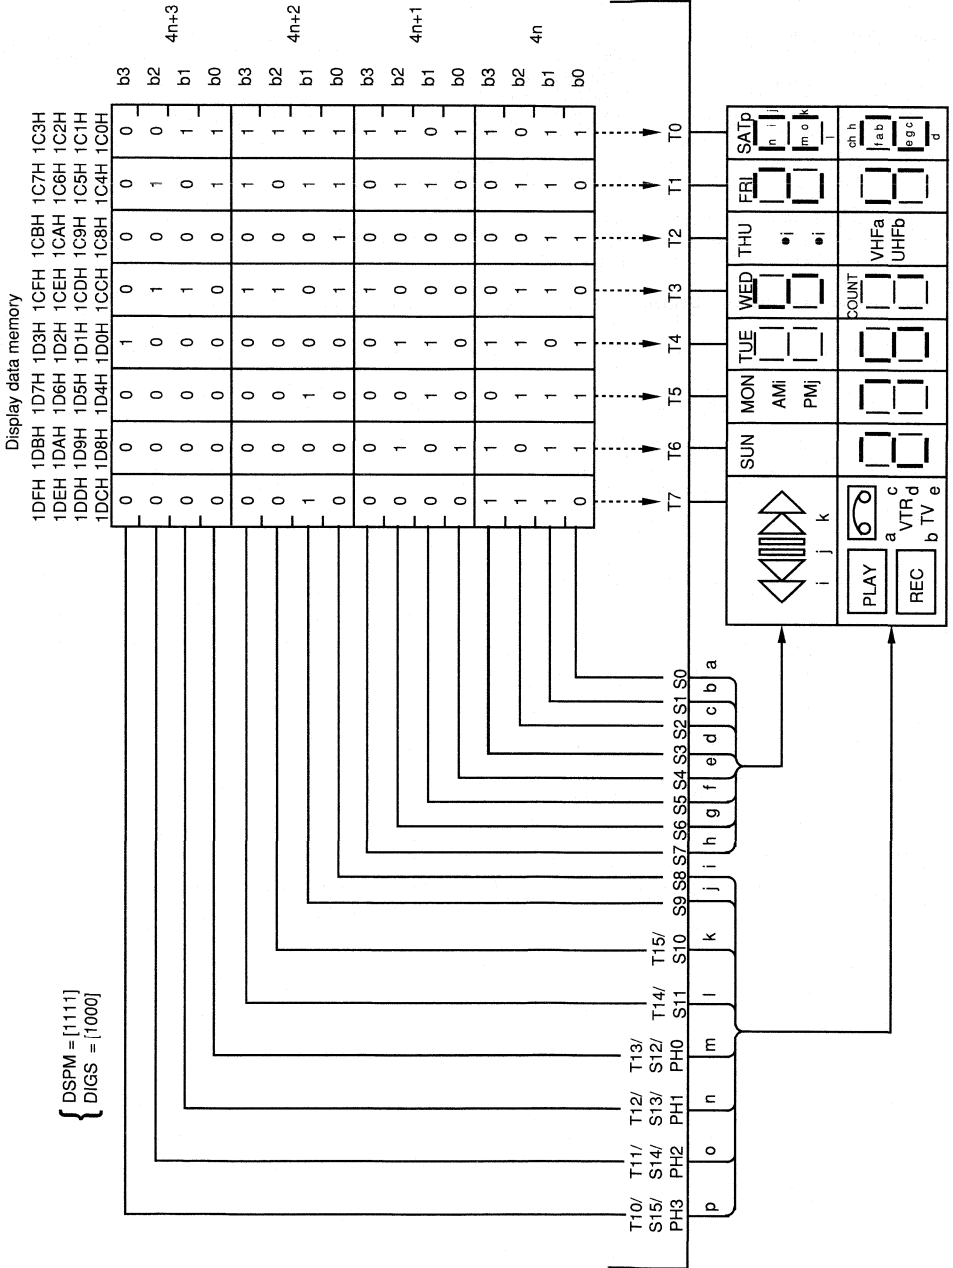

Fig. 5.7-15 16-Segment 8-Digit Display
- (3) 16-segment mode display example: 16-segment 8-digit display (Fig. 5.7-15)